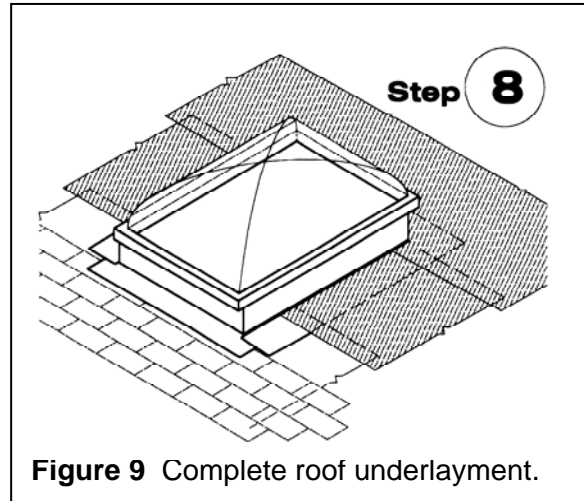

Figure 9 Complete roof underlayment.
Step 8. Complete installation of roof underlayment in shingle fashion. Tuck underlayment under skirt at sill. Continue to lay out the underlayment around the sides and head. Install underlayment over Polyken® or Nashua® flashing strips at jambs and head. Cut underlayment edges back ½" to 1" back from edge of the main skylight frame. Seal the edges of the underlayment to the Polyken® or Nashua® flashing strips (see Figure 9).